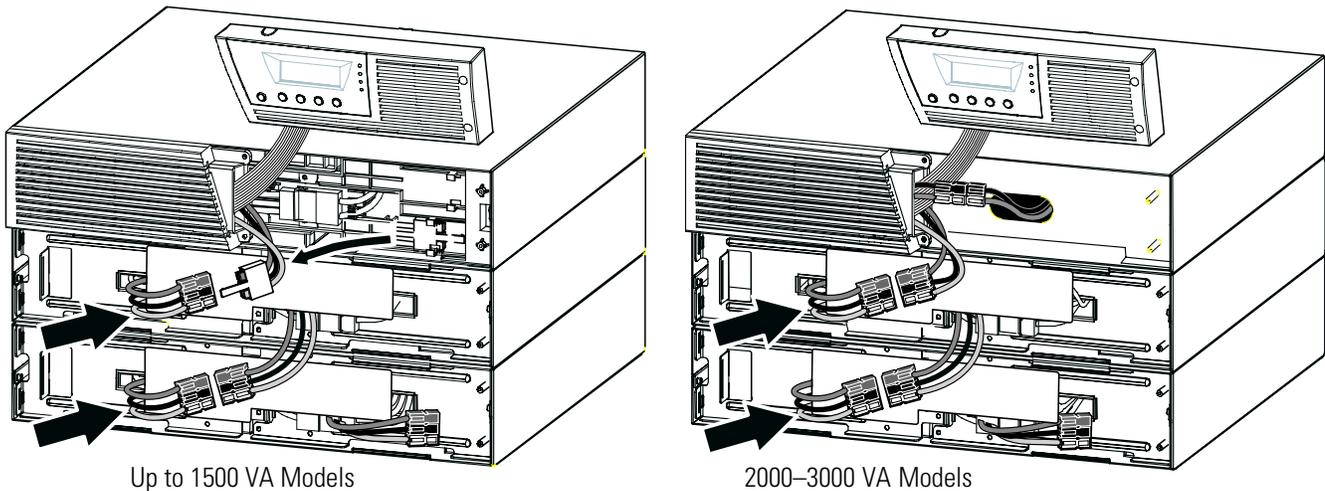

Figure 13. Typical EBM Installation
5. Plug the EBM cable(s) into the battery connector(s) as shown in Figure 13. Up to four EBMs may be connected to the UPS.